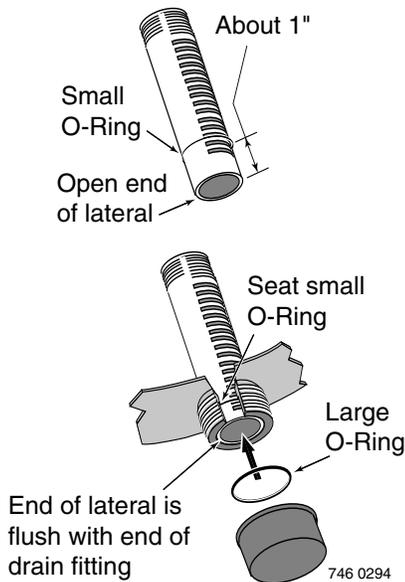

Figure 13: Drain Fitting Assembly.
3. Drain filter tank completely and replace drain cap (Figure 13, Page 10).
1. **Installation:** See Figure 13.
- A. Remove both drain cap and slotted lateral tube (see Figure 13). Sand and water will drain from tank.